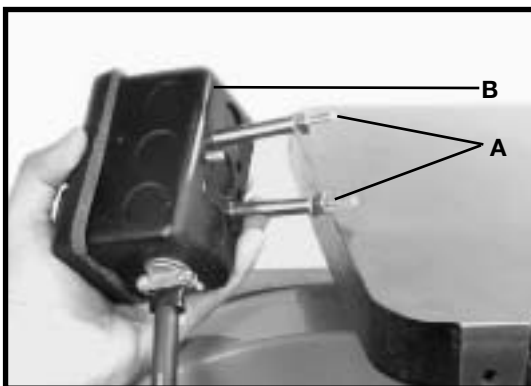

Fig. 12
3. Remove the two outer hex nuts and lock washers (A) Fig. 12 from the two screws extending out from the back of the switch box (B).